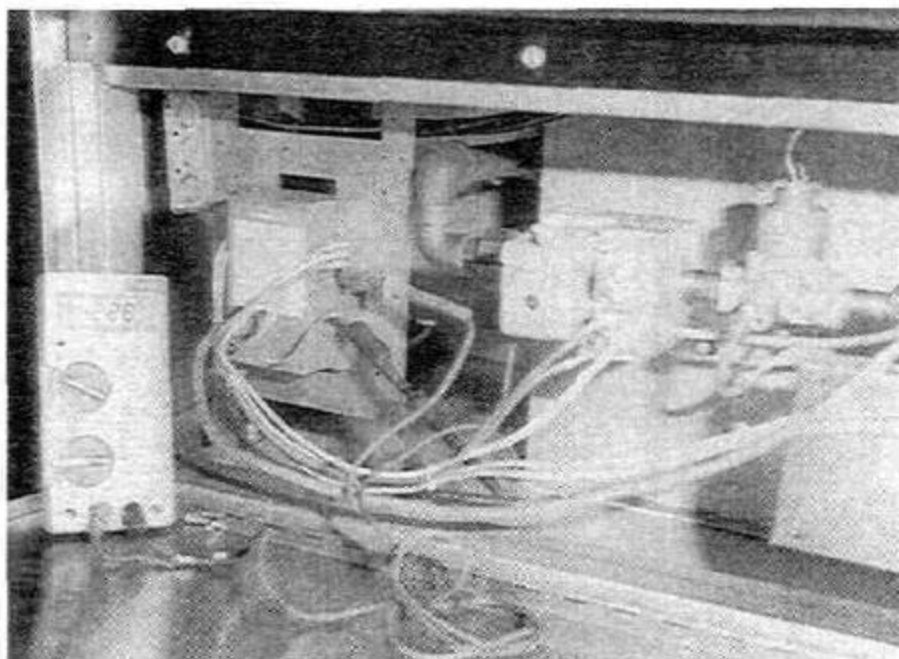

Figure 49. Burner Ignition
a. Connect a meter (DC microammeter scale) in series with the flame signal ground wire as shown in Figure 49. Use the Honeywell W 136A Test Meter, or equivalent. Disconnect the ground wire at the control module. Connect the red (positive) lead of the meter to the free end of the ground wire. Connect the black (negative) meter lead to the quick-connect ground terminal on the control module.